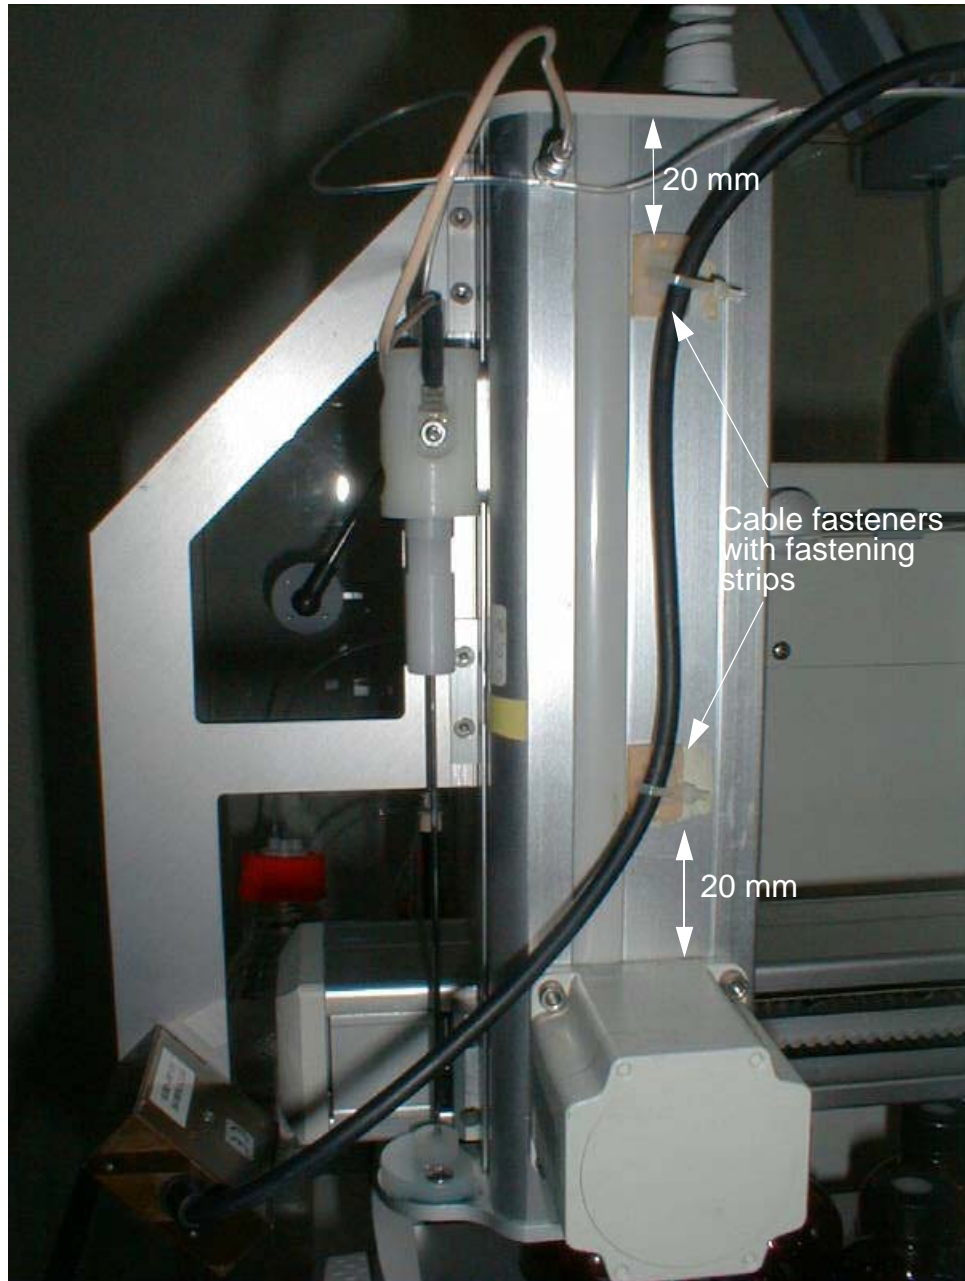

Figure 3.3: Securing the Barcode Cable
3. Affix the two adhesive fasteners to the Z-tower arm as shown in Figure 3.3: and fasten the barcode reader cable to them using the two plastic strips.